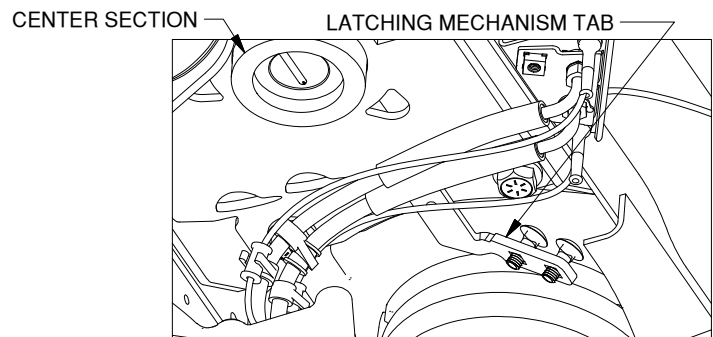

Figure D3: Looking up at center section
3. **Install bolts.** Retract the latching mechanism by pulling on the tab with the square holes and pushing it toward the cab. From the top down, insert a 3/8" carriage bolt in each of the square holes in the latching mechanism, see Figure D3.